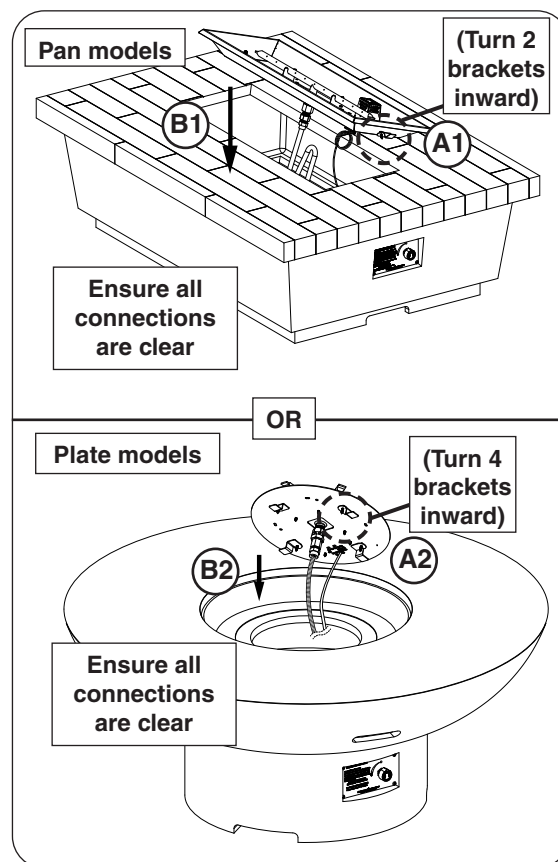

Fig. 34-2 Place burner assembly
1. Ensure that the 2-4 burner brackets are turned inward, then place the burner assembly (see Fig. 34-2).